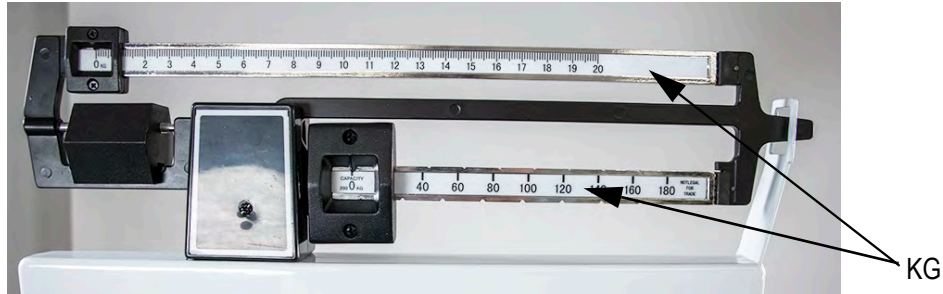
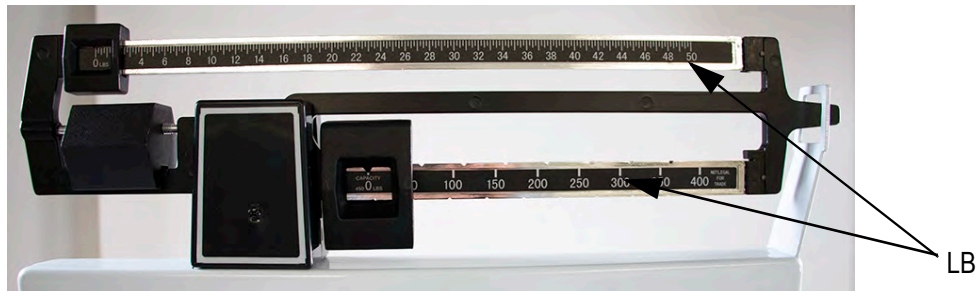

Figure 3-3. Weigh Beam in KG
Figure 3-4. Weigh Beam in LB (Black)
1. Ensure the weigh beam is in either LB/KG mode. You can change from LB/KG by flipping the top and bottom beams. The beams are black for LB mode and white for KG mode. See Figure 3-3 and Figure 3-4.